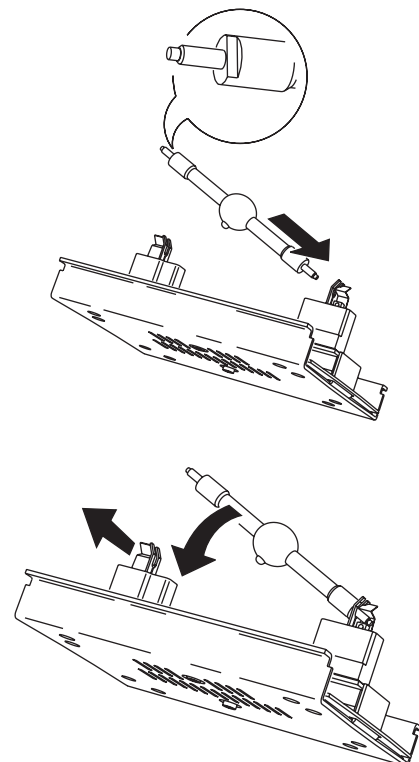

Figure 11: Lamp insertion
The ends of the lamp are profiled with special keys, as shown in Figure 11, to ensure proper installation. Do not use lamps with keys in a non-keyed SFC 10-4 socket.
- 5 See Figure 11. With the nipple on the bulb facing the back, insert the right end of the new lamp in the socket. Pull up on the left spring and snap the other end into place.